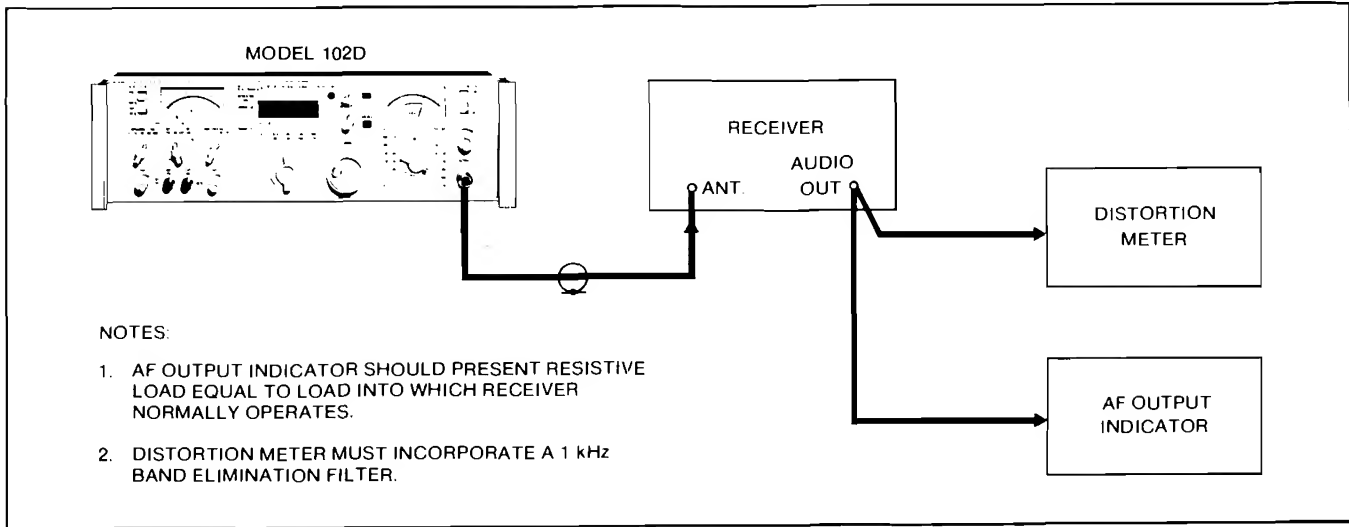

Figure 2-15 EAI Sensitivity Check, Typical Equipment Connection
2-34. EIA Sensitivity Measurement. The Model 102D qualifies in every respect as a standard input signal source for EIA receiver sensitivity measurements. A typical equipment arrangement for such an application is shown in Figure 2-15. Measurement of the minimum usable sensitivity of land-mobile FM communications receivers involves the following steps:
- a. The equipment is connected as shown in Figure 2-15.